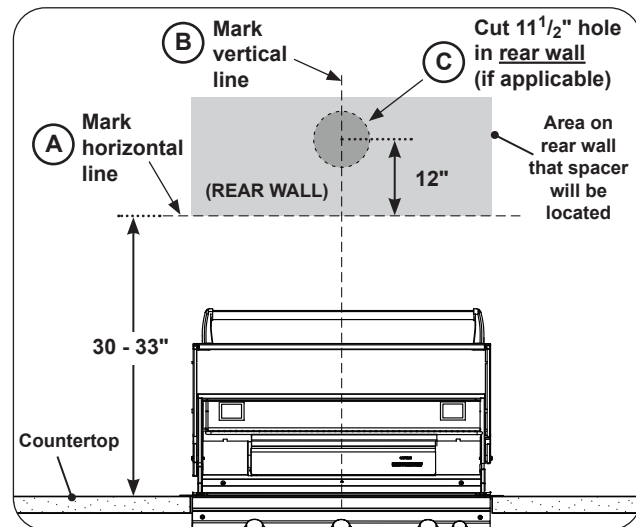

Fig. 13-1 Determine spacer location, create rear cutout
2. Determine the install location of the spacer (30-33" above the countertop) and pencil in a horizontal line on the rear wall. Locate the "left-to-right" center, and pencil a vertical line. See Fig. 13-1, A-B.
3. If venting from the rear of the vent hood, **a cutout through the rear wall is required for venting.** Mark a point on the vertical line 12" up from the horizontal line and drill an 11 1/2" hole through the rear wall (see Fig. 13-1, C).